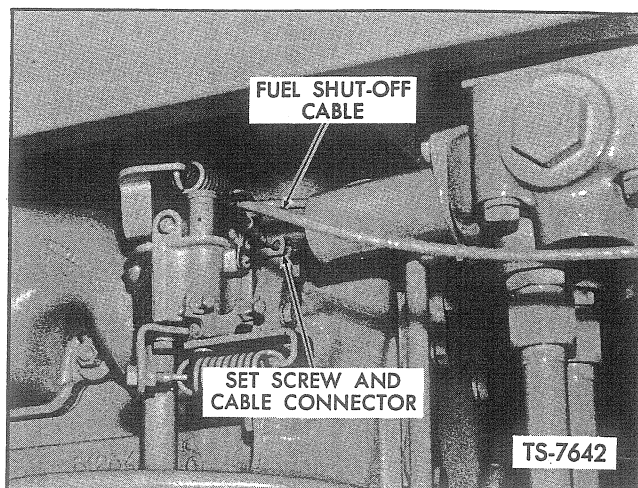

Fig. 21. Adjust Engine Fuel Shut-Off Control — G.M. Diesel
4. Adjust cable tension if necessary at engine fuel shut-off lever on governor assembly by loosening set screw from cable connector, and increasing cable tension as necessary. Resecure cable in cable connector by retightening set screw. See Figure 21.